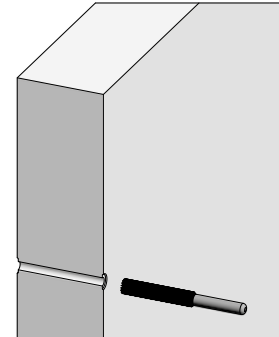

Fig. 78.2
1. Clean the tie hole. It must be free of contamination and grease and have a smooth surface (Fig. 78.2).